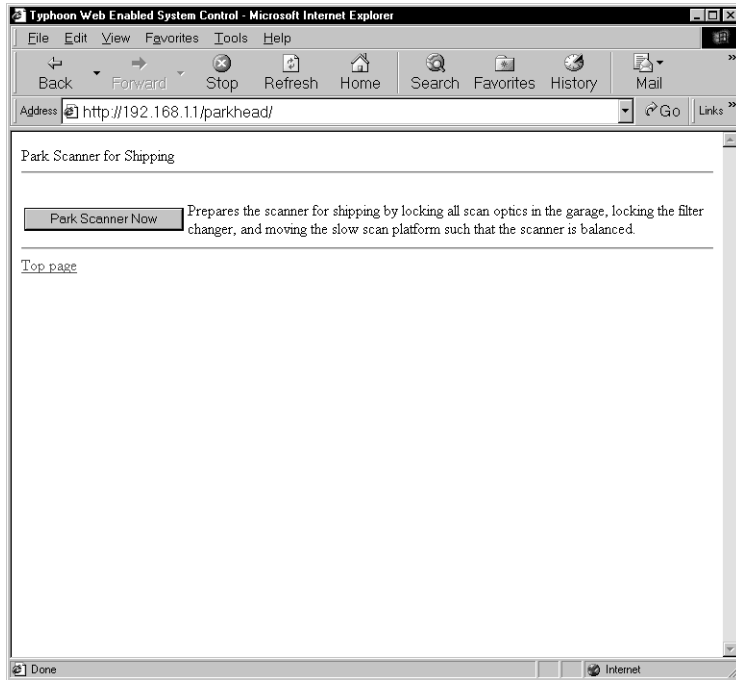

Figure 13-14. The Park Scanner for Shipping window.
2. In the Typhoon Direct Instrument Access window, click **Park Scanner for Shipping**. The Park Scanner for Shipping window appears (figure 13-14).